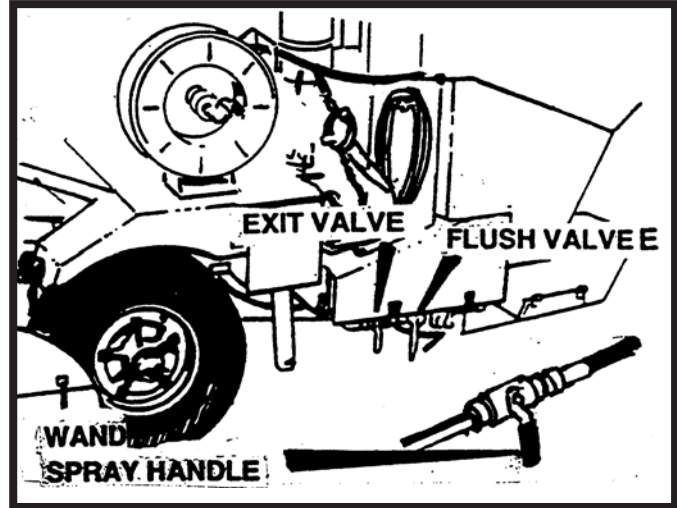

Figure 12
7. **TO FLUSH;** turn exit valve handle to off. Hold open, flush valve handle while also holding wand spray handle open. Continue this until flush appears. Close valves and stow wand back in the stow position. See figure 12.